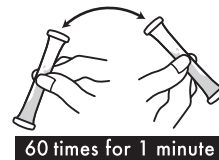

Fig.6
5. Shake the tube in Step 4 by overturning it to right and left for 60 times in 1 minute, and then wait for reaction for about 3 minutes. (Fig.6)